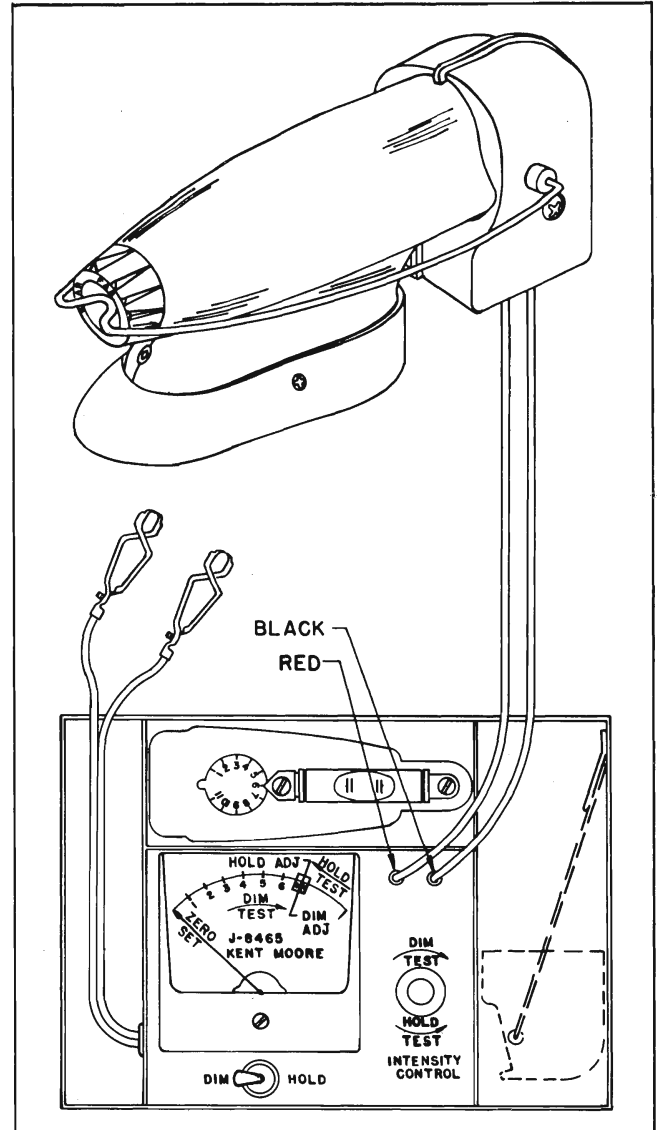

Fig. 12-15 Dim and Hold—Test Equipment Installed
5. Turn zero corrector on face of meter until meter pointer is on zero set line (Fig. 12-15).